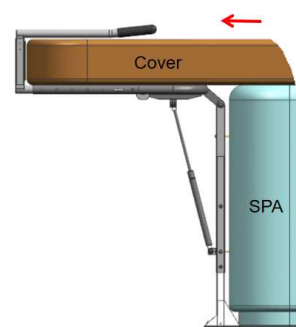
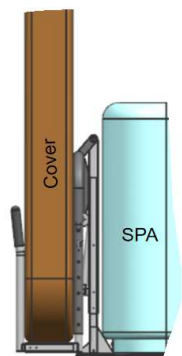

Fig.16
Fig.17
Step 8: Slide the cover to the Turnable Arms and flip it down to vertical position. (Fig.16-Fig.17)